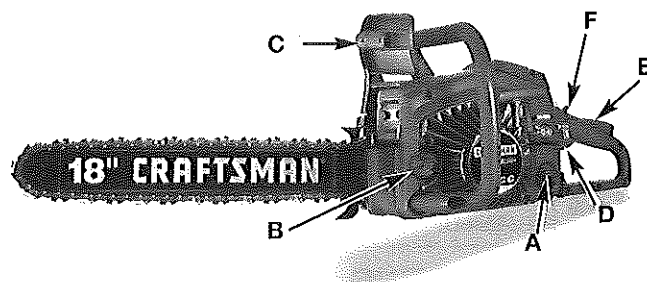
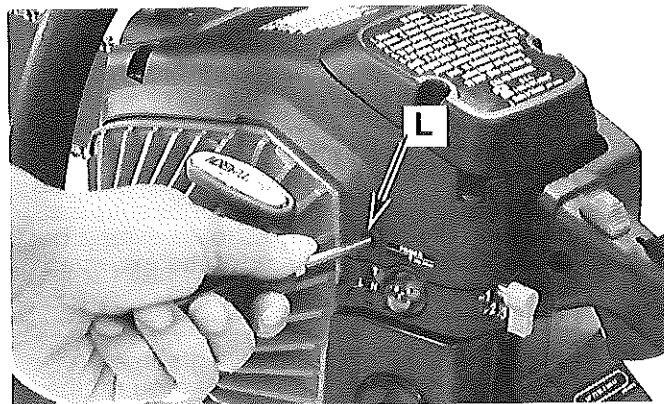
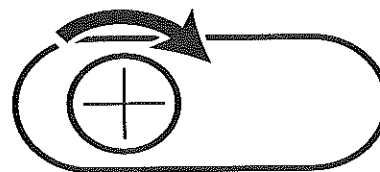

Fig. 3
Fig. 8
Fig. 9
NOTE: For emergency stopping, push the lever of the chain brake lever/hand guard (C) forward and move the STOP switch up (Fig. 3, 4).
5. Hold down safety trigger (E) and squeeze the throttle trigger (D). With thumb, press down on the throttle latch (F). Release trigger (D) first. This will lock the throttle into wide open position (Fig. 3). Pull the rope with a controlled and steady motion 4 times.
6. Then move the **red choke lever** (H) to Position 2, being sure to keep the throttle trigger locked. Hold saw firmly and pull rope until saw starts. This could take 4 more pulls.
7. Let the saw warm up for 10 seconds. Depress and release throttle trigger (D) for idle.
8. Move **red choke lever** (H) to Position 3. If engine fails to start, repeat these instructions. If engine does start, begin chain brake test described on next page.
9. If unit idles roughly, there is an idle adjustment access hole (L)(Fig. 8). Using a Phillips or slotted screwdriver, turn screw 1/4 to 1/2 turn clockwise (to the right). Unit should then idle properly (Fig. 9).